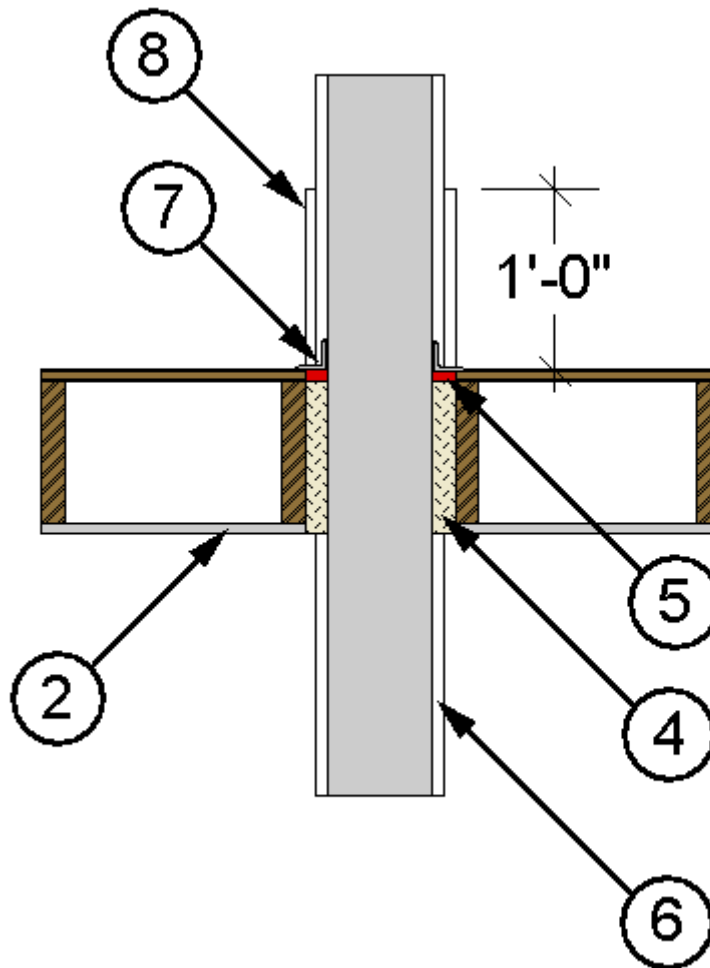

Figure 2. Firestop Details
3. THROUGH-OPENING: Refer to Figure 2. Create a rectangular through-opening in the supporting construction (Item 2) sized three inches greater in both dimensions than the corresponding outside duct (Item 1) dimensions. Frame the opening with min. 2 x 10 solid sawn wood and matching the framing material size used in the supporting construction (Item 2). If resilient channels or furring channels are used in the listed supporting construction (Item 2), install additional resilient channels or furring channels along the perimeter of the framed opening. Position the uninsulated duct (Item 1) concentrically within the through-opening.
4. PACKING MATERIAL: Refer to Figure 2. Use nominal 1-1/2 in. thick, nominal 6 pcf, 3M™ Fire Barrier™ Duct Wrap 615+ or 3M™ Fire Barrier™ Dryer Ventilation Wrap (DVW) core insulations as the firestop packing material.
- 7. FIRESTOP SUPPORT:** Refer to Figure 2. Use min. 1-1/2 in. x 1-1/2 in. x 1/8 in. steel angles on each of the long sides of a rectangular duct (Item 1) or on opposite sides of a round duct (Item 1) and parallel with opposite sides of the through-opening (Item 3). Extend the angles min. 1-1/2 in. onto the supporting construction on each side. Fasten the angles to the supporting construction (Item 2) with min. No. 10 screws of the appropriate type for the underlying construction; use one screw on each side. Fasten the angles to the duct (Item 1) with min. No. 10 self-drilling hex-head or panhead steel screws. Use two screws on each side for a
- 8. FIRESTOP COLLAR:** Refer to Figure 2.